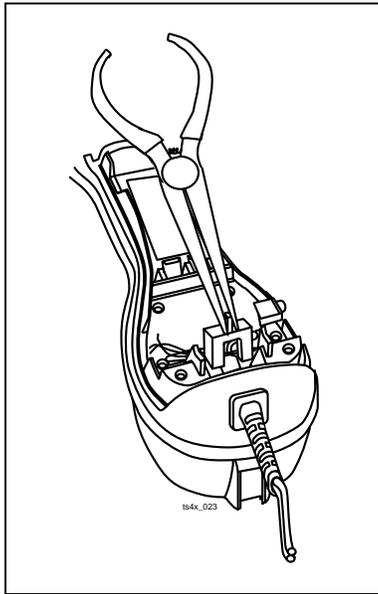

Figure 7. Removal/Installation of Plastic Clip
5. Using needle nose pliers, remove the plastic clip (see Figure 7) that holds the line cord strain relief in place.
5. Insert the plastic clip over the line cord strain relief at the base of the test set housing (see Figure 7) and press tightly into place. Inspect all work to ensure no pinched wires or areas where weather resistance and safe operation is affected. Reinstall the battery. Observe the proper polarity.